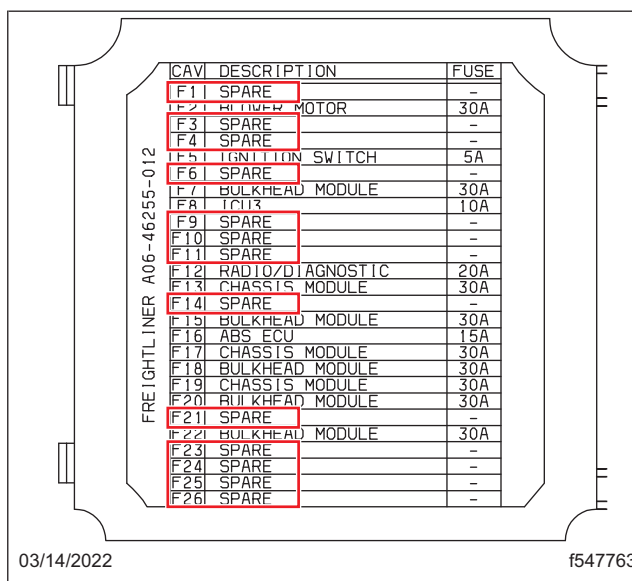
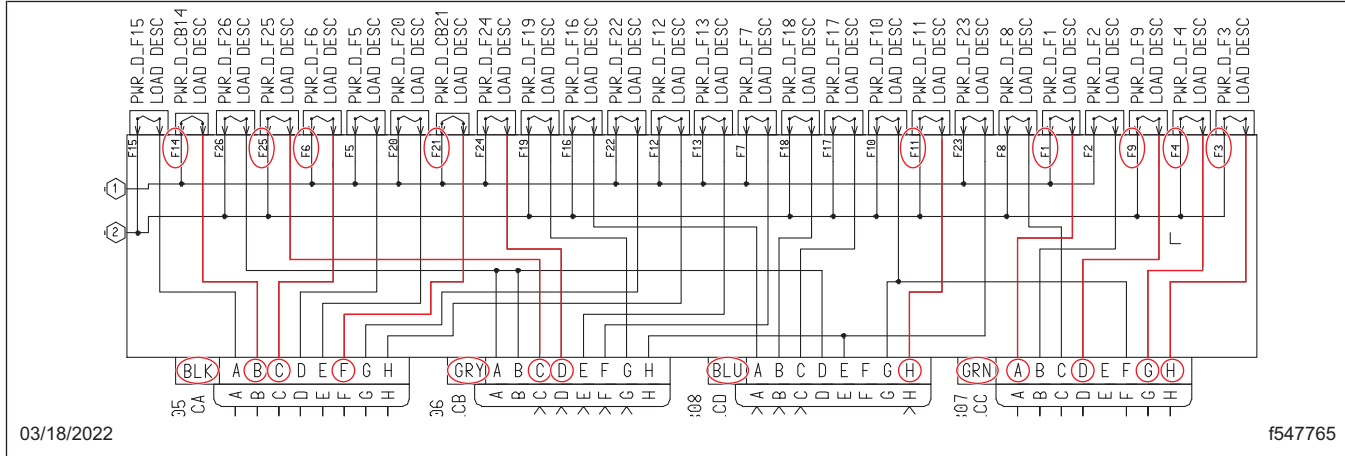

Fig. 4, Example Fuse Location Diagram
Fig. 5, Tracing Spare Fuses
- 4.2 Highlight the PDM line item and click the EZWiring™ button in PartsPro to open the PDM drawing as shown in Fig. 4.
- 4.3 In the PDM drawing, locate the PDM label applicable to the PDM part number (sheets 2 to 6). Note the locations of the spare fuses. See Fig. 4 for an example using A06-46255-012.
- 4.4 See wiring diagram G06-86567-000. Trace out the spare fuses identified in Fig. 4 to the corresponding PDM connector and pin locations. It is only necessary to identify one open location, ideally in a connector (usually the black one) closest to the loose 76A wire, to avoid having to extend it to reach another connector. An example is shown in Fig. 5.